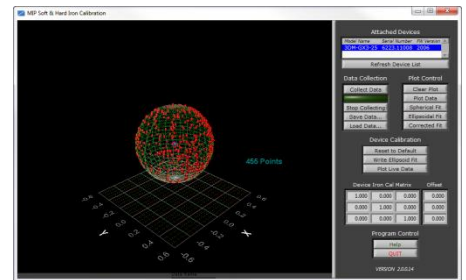

Figure 4: Data points displayed from CSV
- Click OK, the dialog box disappears, the data in the CSV is imported and the data points are displayed to the grid as shown in figure 4.